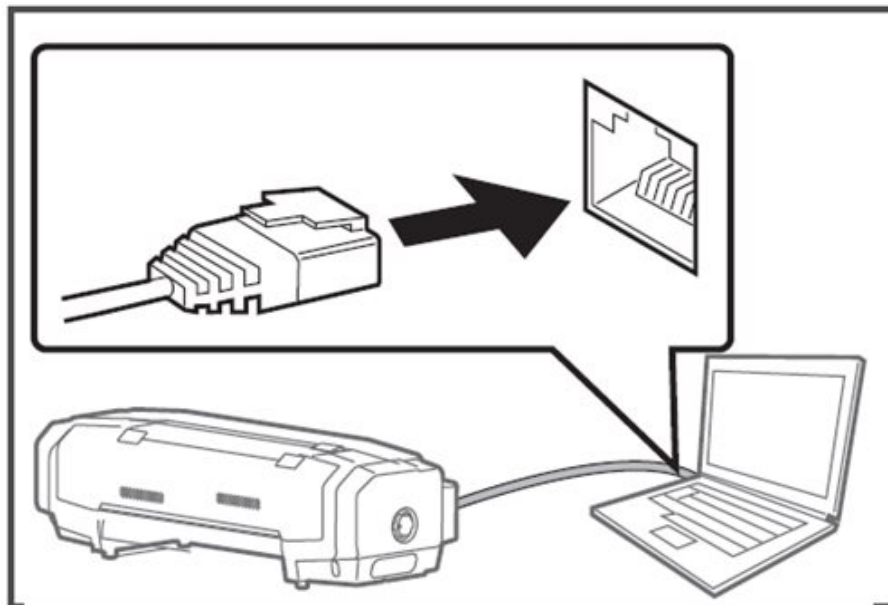

Figure 28
9. Connect the ethernet cable to your computer. If you use the product with a LAN, connect the cable so that the computer and printer are on the same subnet. The following figure is an example of peer-to-peer connection between this product and computer. Connection method differs depending on the usage environment. See Figure 28.